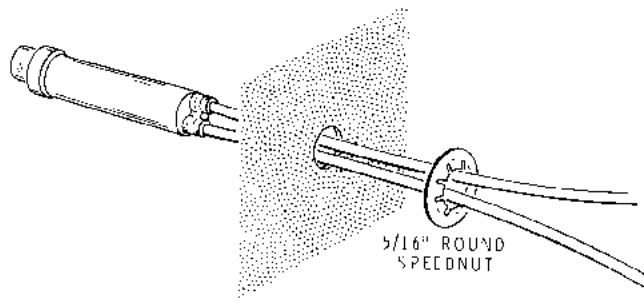

Figure 14
- () Using a round speednut, mount the pilot lamp in position DL. Refer to Figure 14.
- ②④ () Connect one lead of the pilot lamp to L2 (S).
- ⑩ () Connect the other lead of the pilot lamp to C2 (S).